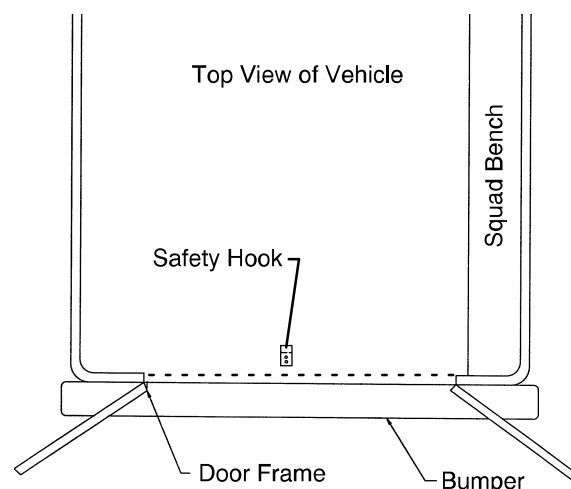

Figure 5 – Safety Hook Placement
4. Mark the position of the safety hook on the patient compartment floor. The safety hook should be installed as close as possible to the rear of the vehicle while allowing the vehicle doors to close (Figure 5). Be sure the bumper and bumper step don't interfere with the folding and unfolding of the cot's undercarriage.